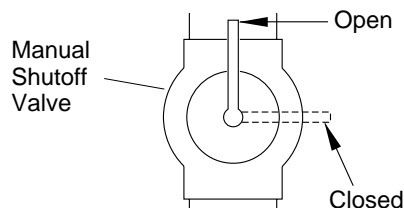

Figure 41 - Manual Shutoff Valve
1. Close manual shutoff valve (see Figure 41).
1. Open manual shutoff valve (see Figure 41).